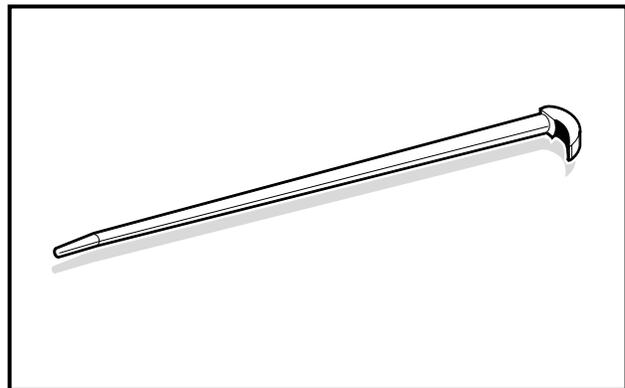
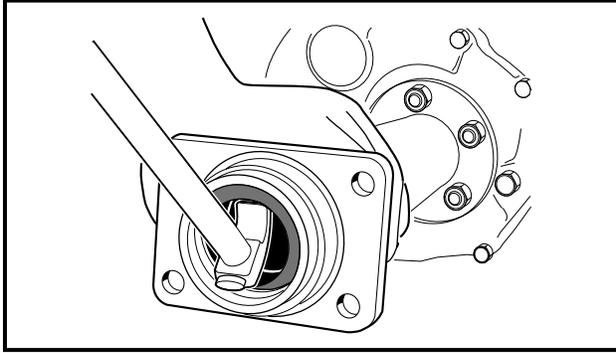

Figure 16-2 Rolling Wedge Bar
Figure 16-5 Seal Lip
5. Use a 16 in. (40 centimeter) rolling wedge bar (**Figure 16-2, Page 16-2**) to remove the oil seal. Insert the wedge bar underneath the seal lip and pry out oil seal (**Figure 16-5, Page 16-5**). **See following CAUTION.**